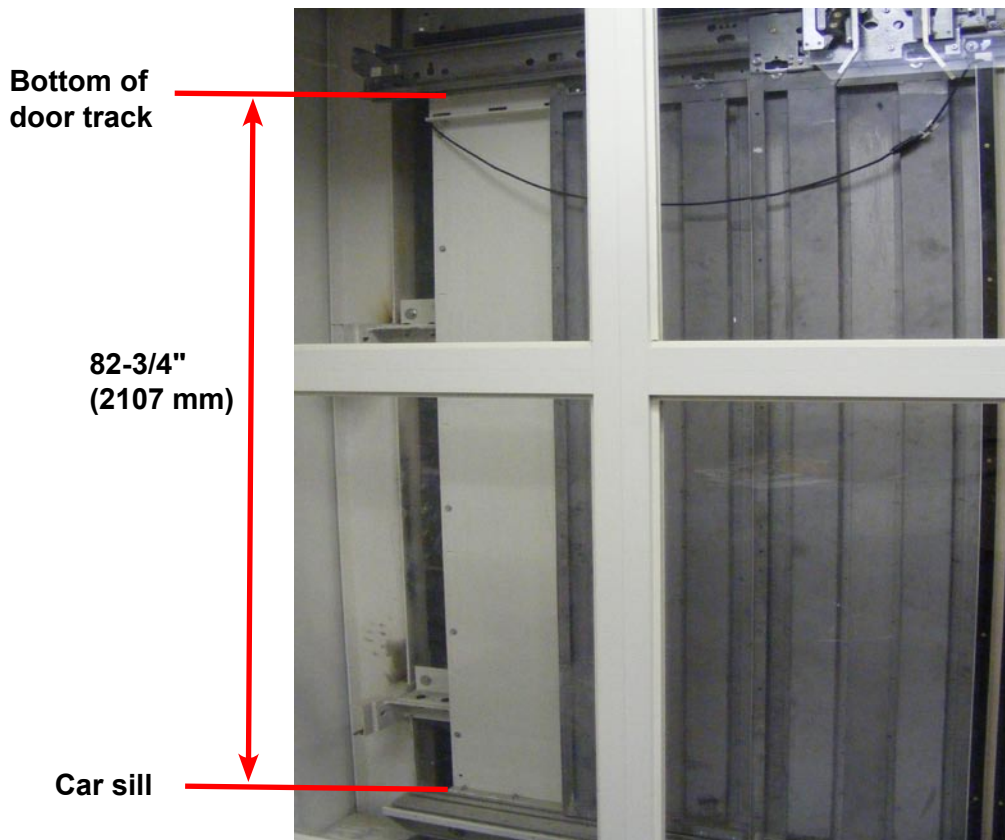

Figure 38 Distance From Car Sill to Bottom of Door Track
2. Check that the distance from the car sill to the bottom of the door track is $82\text{-}3/4"$ + $1/8"$, - $1/16"$ (2107 mm). See the sample installation shown in Figure 38.